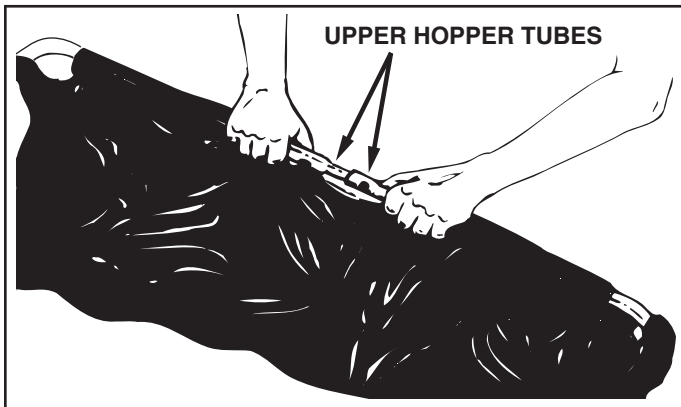

FIGURE 10
- Slide the two upper hopper tubes together and line up the center holes as shown in figure 10.